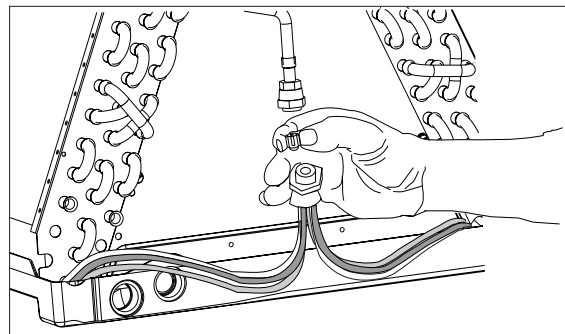

Figure 8. Restrictor Insertion in Distributor Body
5. Insert the new restrictor orifice in the distributor body as shown in Figure 8.